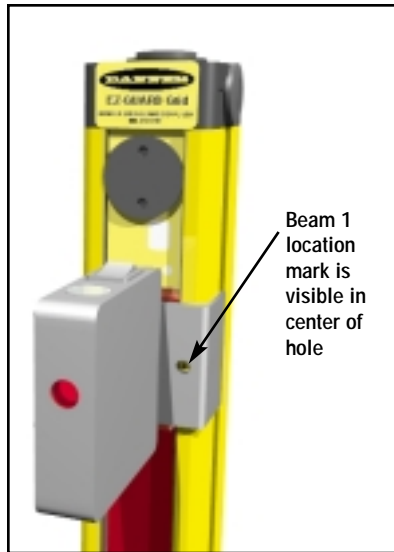

Figure 3-12. The LAT-1 Laser Alignment Tool, in position on beam 1 of the emitter
- 1) Attach the battery-powered LAT-1 to the housing of the emitter over the location of beam 1 (closest to the display), using the EZ-GUARD bracket clip included with the tool. A dot on the sensor housing next to the lens window indicates the beam's location. Align the hole on the LAT-1 over the beam 1 marking (see Figure 3-12).